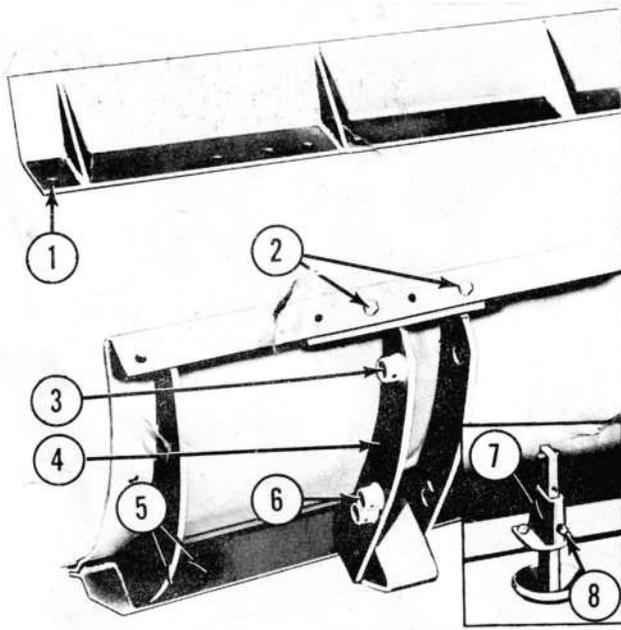

Figure 3
Dozer Blade Extension, Part No. 195872: (See Figure 3) Attach the blade extension to the top of the blade, using the bracket bolts (2), Figure 3, and two ½" x 1 1/8" hex head bolts, lockwashers and hex nuts provided.
Mushroom Skid Shoes, Part No. 190033: (See insert, Figure 3) Attach the skid shoe brackets (7), Figure 3, to the blade at (5), using two ½" x 1 1/2" hex head bolts, lockwashers and hex nuts for each bracket. Adjust the skid shoes for height by means of the set screws (8), and secure with jam nuts.